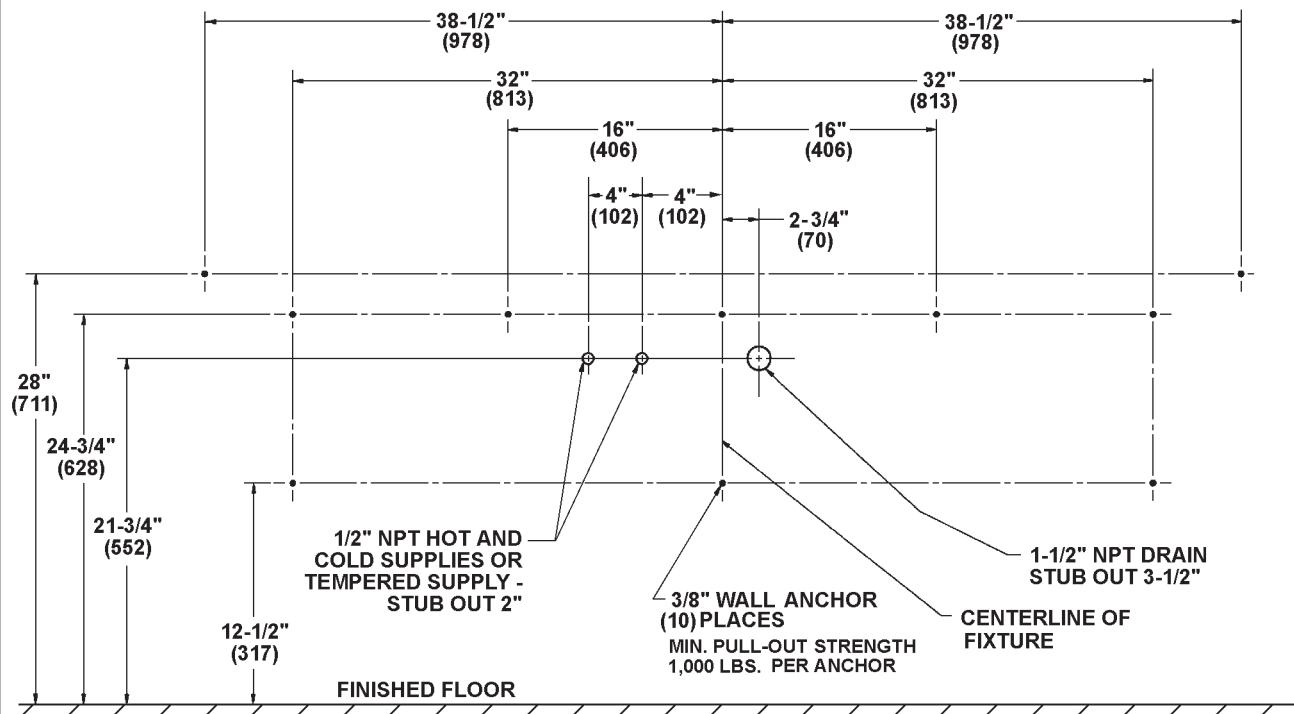
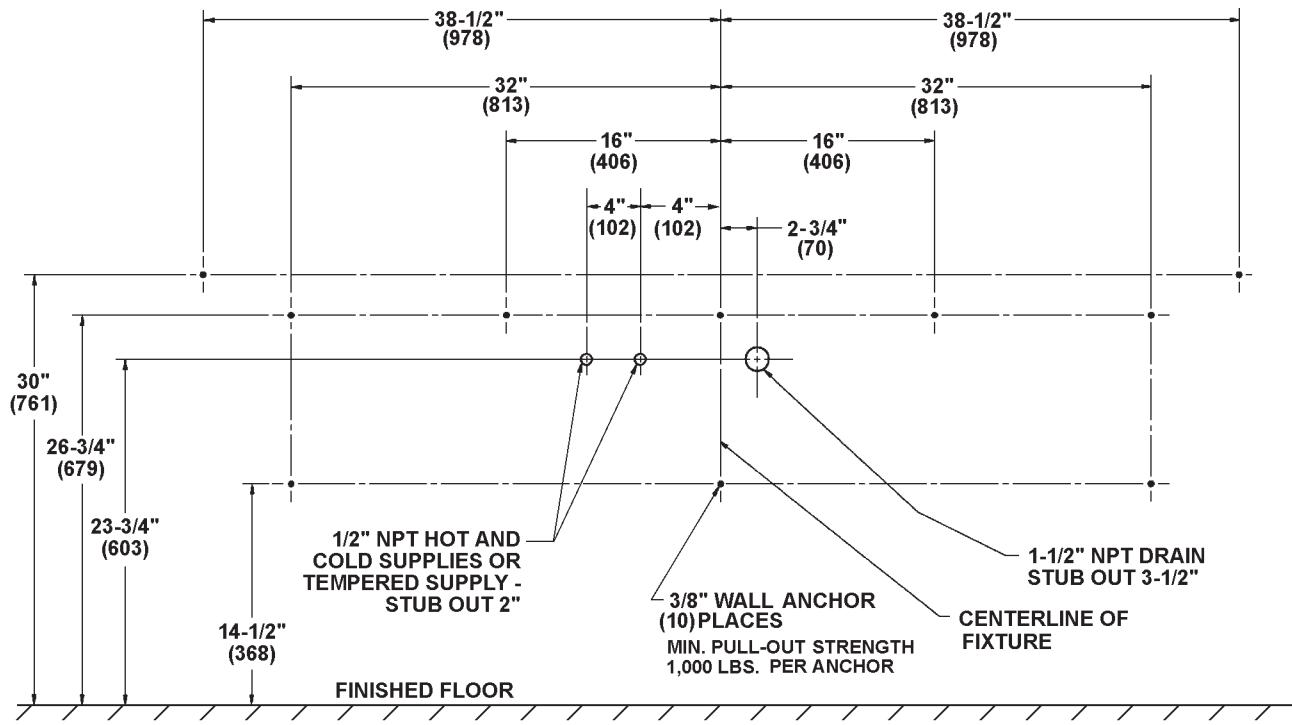

Figure 1a
Figure 1b
Note: See Figure 1a (below) and Figures 1b and 2 (on page 6) when roughing in the Express®.
⚠️ IMPORTANT: Dimensions shown in Figure 1a are for Juvenile Height grades Pre-K thru 5 or 6, and in Figure 1b for Juvenile Height grades 6 thru 8 or 9.
3. Install (10) 3/8" wall anchors with a minimum pull-out rating of 1,000 lbs. (supplied by installer) at the locations shown in Figures 1a and 1b.